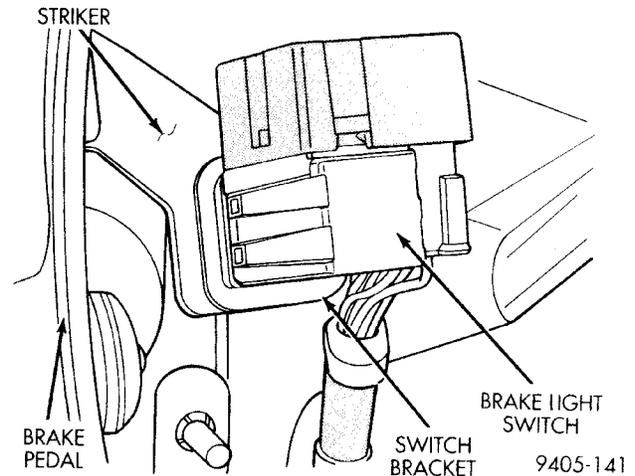

Fig. 163 Stop Lamp Switch
(1) Depress and hold the brake pedal while rotating stop lamp switch (Fig. 163) in a counter-clockwise direction approximately 30 degrees.
(2) Pull the switch rearward and remove from its mounting bracket.
(3) Disconnect wiring harness connector from stop lamp switch.
CAUTION: Do not use excessive force when pulling back on brake pedal to adjust the stop lamp switch. If too much force is used, damage to the stop lamp switch or striker (Fig. 163) can result.